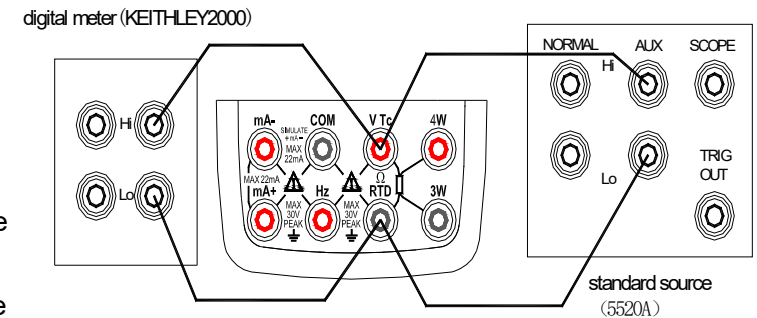

Figure 13 Adjusting resistance source
Step 1: Using the key (**OHM**) , select resistance function. Connect the lead cables for measurement to the standard digital meter as shown in Figure13.